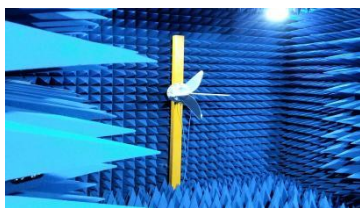

Figure.2
- A. The 3D chamber provides less than -40dB reflectivity from 800MHz to 6GHz and a 40cm diameter spherical quiet zone. The measurement results are calibrated using both dipoles and standard gain horns (see figure. 2).